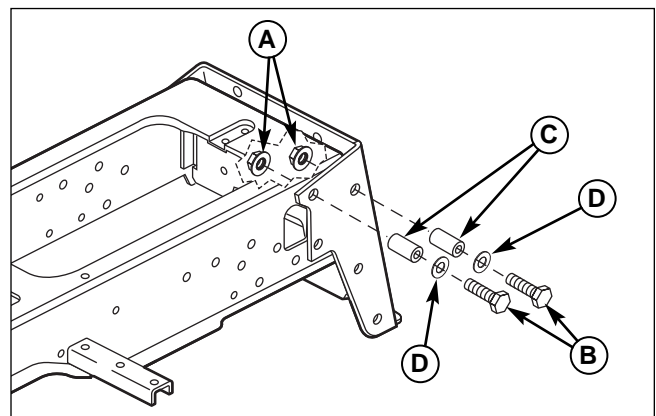

Figure 3. Install Rear Spacers
1. Install the rear spacers (C, Figure 3). Secure with two 1/2-13 x 2-1/2 capscrews (E), washers (D), spacers (C), and 1/2-13 nylock nuts (A) per side.